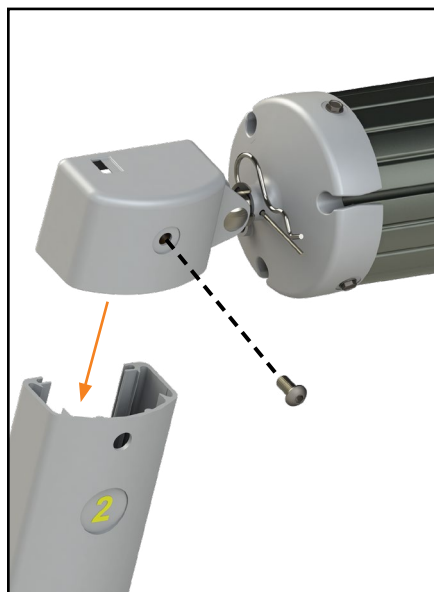

Fig.4
2. Slide the left support arm assembly into the idler head assembly of the roll tube. Align the holes and secure using one (1) 1/4-20 x 1/2" Phillips drive screw (Fig.4).